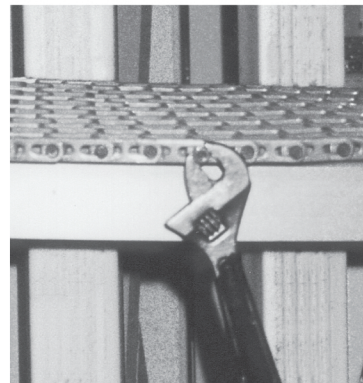

fig. 2
- c. Insert threaded connector rod and attach nut. Insure that the nut does not protrude farther than adjacent rod button heads (Figure 2).